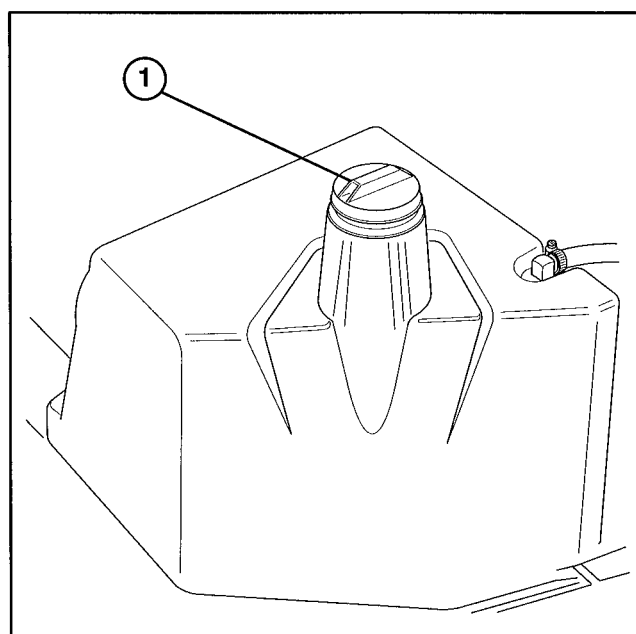

Figure 11
1. Remove cap from the fuel tank (Fig. 11) and fill the 4.5 gallon tank to within 1 inch from the top with unleaded gasoline. Install fuel tank cap tightly.